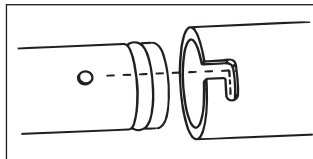

Figure 2
- Grasping catheter body, still covered by the peel-away catheter contamination guard, advance catheter into hemostasis valve of percutaneous sheath introducer. Continue advancing catheter and peeling away the contamination guard until catheter hub locks on hemostasis valve (Figure 2).